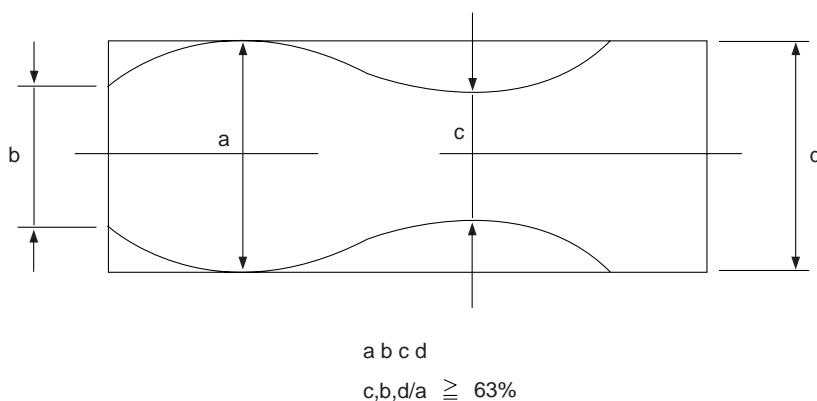

Fig. 6-9 Envelope Waveform Adjustment
- 3) Make sure the video envelope waveform (at its minimum) meets the specification shown in Fig. 6-9.